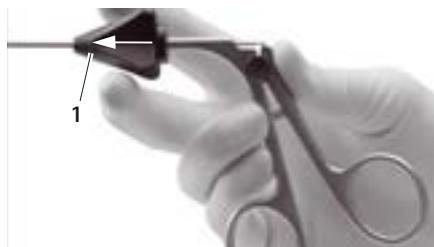

Fig. 9
- Allow star wheel 1 to slide forward, see Fig. 9.